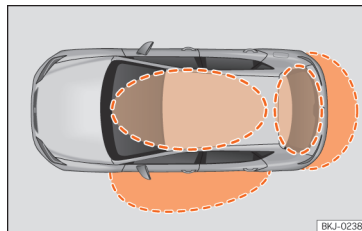
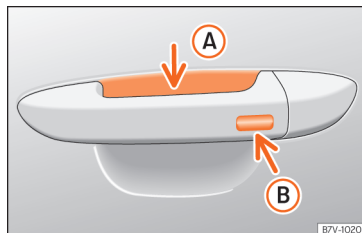

Fig. 83 Keyless Access: proximity zones.
Fig. 84 Door handle: sensor surfaces
»» **Fig. 84**
Keyless Access is a key-free locking and ignition system to unlock and lock the vehicle without actively using its key. To do this, all that is required is to have a valid vehicle key in the detection area where you are attempting to access the vehicle »» Fig. 83 and to touch one of the sensor surfaces on the door handles »» Fig. 84 »» ❶.
If a valid key is in the proximity of the car »» Fig. 83, the Keyless Access locking and starting system gives the key entry as soon as
- Grip the driver door handle. When you do this, you touch the sensor surface »» Fig. 84 ❶ (arrow) of the handle and the vehicle unlocks.
- Touch (*once*) the locking sensor surface »» Fig. 84 ❷ (arrow) on the driver's door handle. The door that is used must be closed.
- Touch (*once*) the sensor surface »» Fig. 84 ❷ (arrow) on the driver's door handle. The vehicle locks with the "Safe" security system »» page 102. The door that is used must be closed.
- Touch (twice) the sensor surface »» Fig. 84 (B) (arrow) of the driver door handle to lock the vehicle without activating the “Safe” security system »» page 102.
When the vehicle is locked, the rear lid automatically unlocks on opening if there is a valid vehicle key in the proximity »» Fig. 83.
- Push the central locking button  on the remote control and touch the locking sensor surface of the driver door handle »» Fig. 84 (B) within the following 5 seconds. Do not grasp the door handle; otherwise the vehicle will not unlock. Deactivation is also possible if the vehicle is locked through the driver's door lock.
To close all the electric windows using the **comfort function**, keep a finger on the locking sensor surface »» Fig. 84 (B) (arrow) of the door handle for a few seconds until the windows have closed.
The sensor surfaces on the door handles could engage if hit with a water jet or high pressure steam if there is a valid vehicle key in the proximity. If at least one of the electric windows is open and the sensor surface »» Fig. 84 (B) (arrow) on one of the handles is activated continuously, all windows will close.